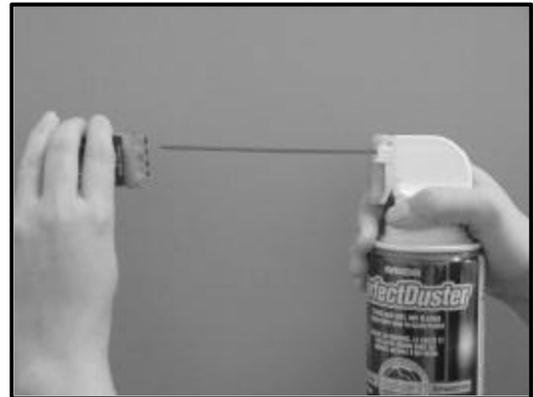

Fig.7 – CDA cleaning (module)
1. With the clean dry air, blow the inner barrel of the Transmitter and Receiver Optical Sub-Assemblies. This will dislodge loose particles (see *Figure 7*).